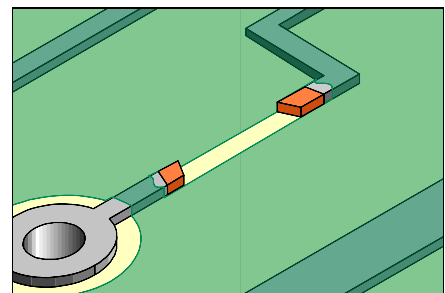

Figure 1: Remove solder mask from the connecting circuit.
4. Scrape off any solder mask or coating from the connecting circuit. (See Figure 1).